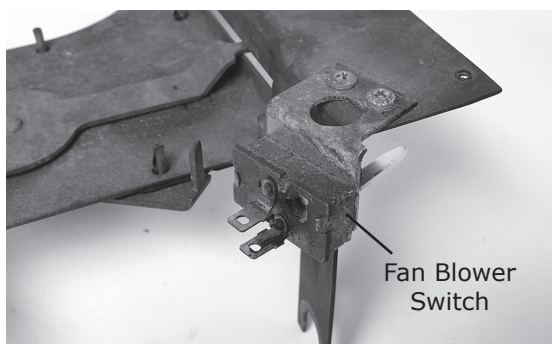

Figure 2
4. Remove radio, knobs and (2) mounting nuts (retain).
6. Remove (7) Phillips screws from upper and lower lips of cluster bezel (retain).
7. From under instrument panel, disconnect speedometer cable. Remove wiring harness from (2) retainer clips at steering column bracket.
11. Remove control panel from dash by removing the (2) OEM screws, and loosen temperature and mode cables from rear of control bracket.
12. On a workbench, remove and discard the fan blower switch (retain OEM screws) (See Figure 2, below).